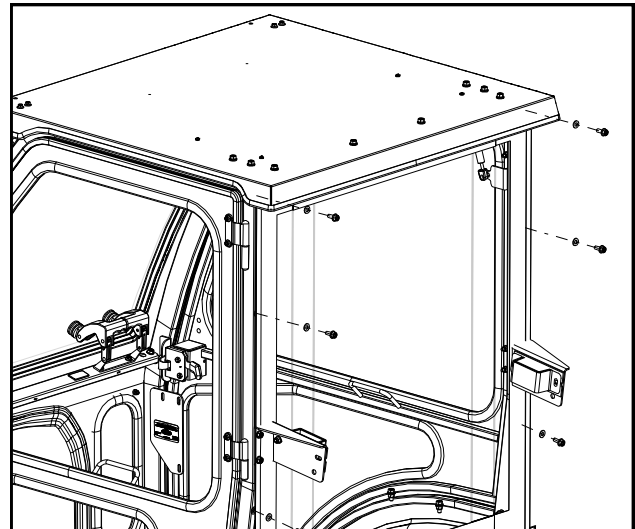

Fig. 23.3 (hardware for sideframes)
23.3 Install the hardware listed below into the exposed rivet nuts found on the back of the sideframes. See fig. 23.3.